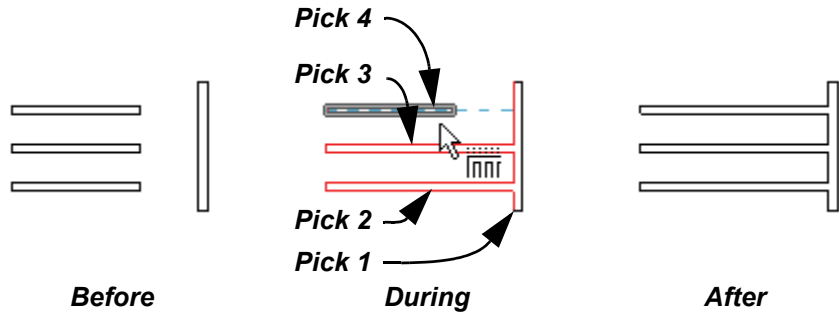

Figure 2–39
3. Select the elements that you want to trim or extend. For trimming, select the side you want to keep, as shown in Figure 2–39.